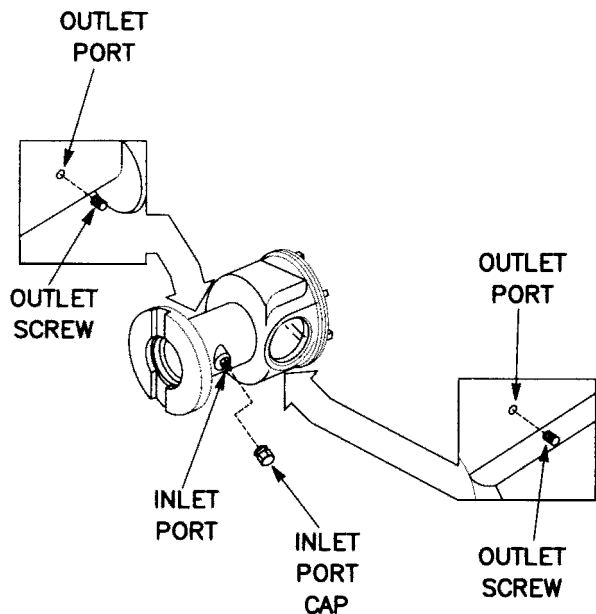

Figure 3-46 M17B1C End Assembly
The end assembly for the M17B1C (fig. 3-46) is purged and charged in the same manner as the M17A1 and M17C with the exception of removing two outlet screws instead of one. Refer to para 3-12.c.(2) for procedures.